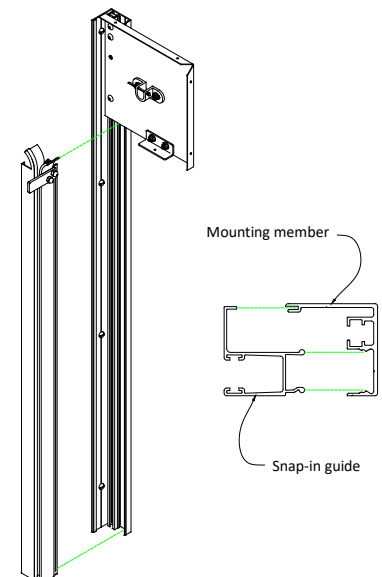
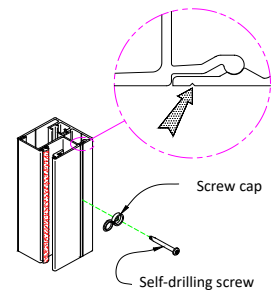

Figure 6
Figure 7
Step 6: Install guide. Taking snap-in guide for left jamb, orient it in front of mounting member as illustrated in Figure 6. To “snap” the guide together on face of wall units, C-clamps with blocks of wood are used. Placing a block of wood on back of mounting member and gap of snap-in guide, slowly tighten down on C-clamp watching until outer face corners contact. Leaving that C-clamp in place, repeat the same process 12” +/- higher. Remove first clamp and repeat process 12” +/- higher and so on. For Between jamb units a block of wood is placed over guide gap and a hammer is used to “tap” snap-in guide in place. **CAUTION: Using a hammer to install snap-in guide on a face of wall unit may loosen mounting member fasteners and is not advisable on smaller units.** #8 x 1-1/2” self-drilling screws and screw caps are installed at all marks on mounting member groove; refer to Figure 7. This process is repeated with guide at right jamb.